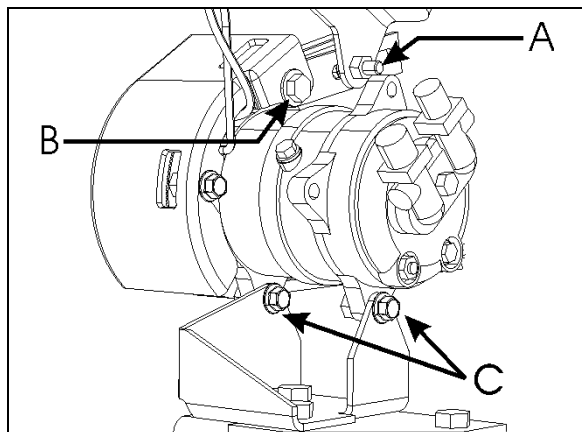

FIGURE 40: COMPRESSOR REMOVAL OR INSTALLATION 22349
- \* Slacken bolts A (Refer to figure 40).
- \* Remove bolts B & C (Refer to figure 40).